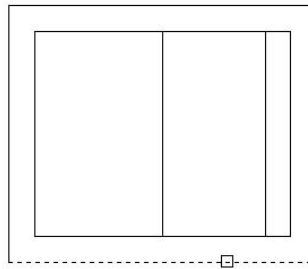

FIGURE 2.18: Selecting a line to be a boundary edge
2. Pick the very bottom horizontal line (see Figure 2.18) and press \downarrow .